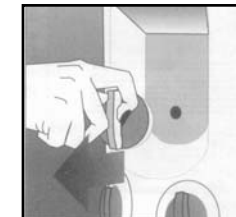

Fig. 6
- Pull out the basket lifting knob (#9). Fig. 6.